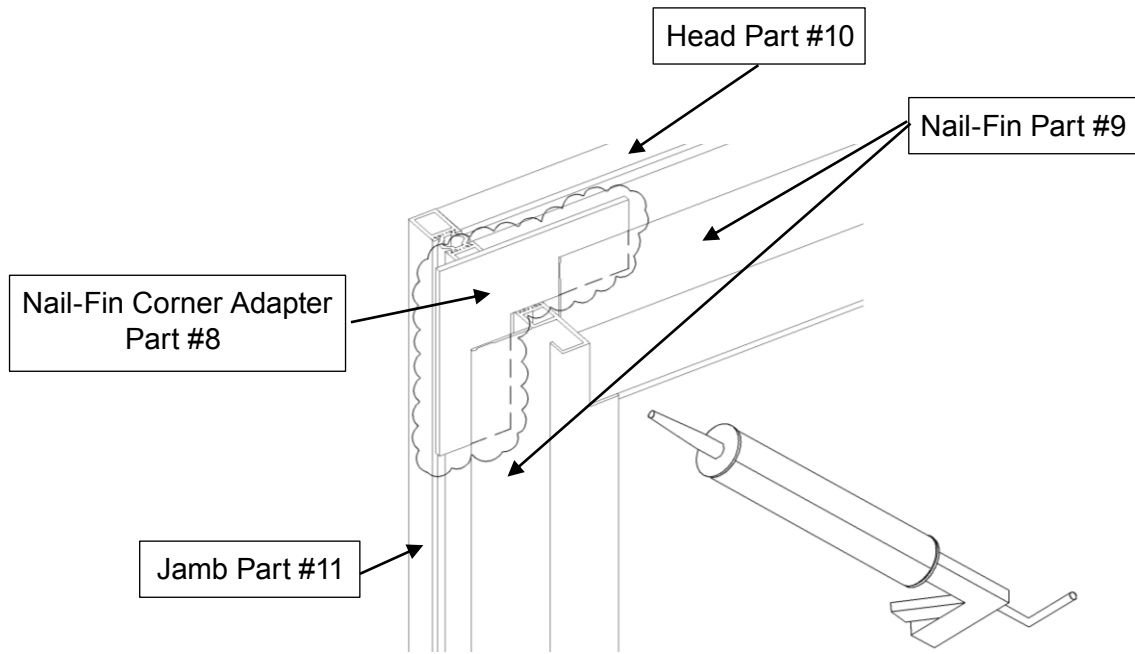

FIGURE 8
12. Apply sealant to the backside of the 2 Nail-Fin Corner Adapters (Part #8) and install the brackets at upper corners of the frame as shown in figure 8.